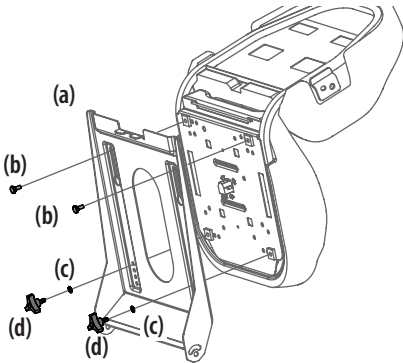

Figure 5
- a. For a Knob Adjust seat insert bolts (b) in the rear holes and lock washer (c) and knobs (d) in the front. Tighten securely. See Figure 5.